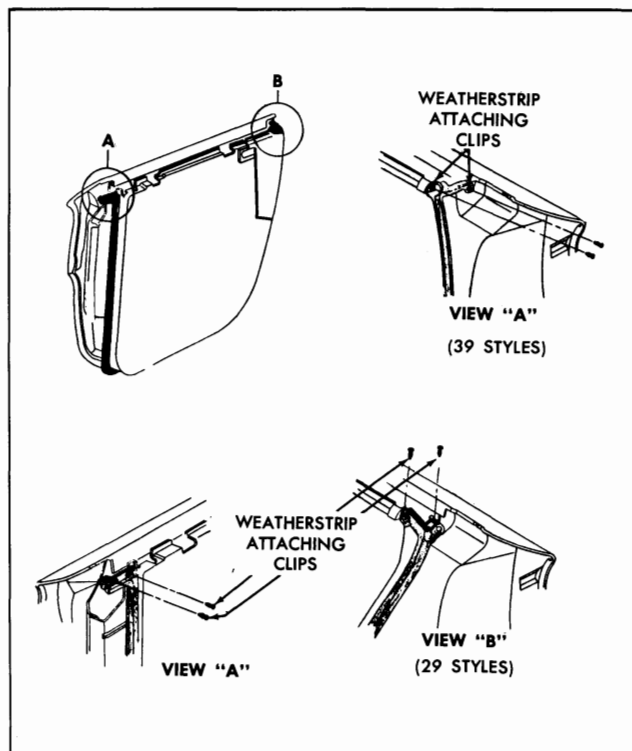

Fig. 3-7 Weatherstrip Attaching Clips
2. On rear doors, remove snap fasteners securing ends of weatherstrip at belt line of door hinge and lock pillar panels (Fig. 3-7).